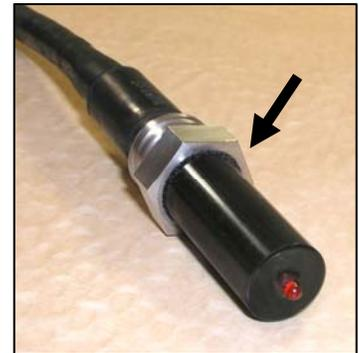

Figure A-5: Surface Modem Loopback connector
12. Connect the Surface Modem Loopback connector to the end of the Surface Modem cable (where the Surface Modem normally connects) as shown in Figure A-5.